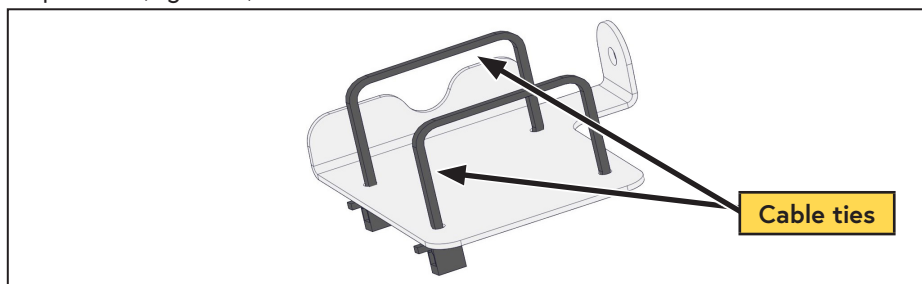

Figure 76 — Prepare inverter bracket
- ☐ Loop the cable ties through the inverter bracket, leaving them as loose as possible (Figure 76).